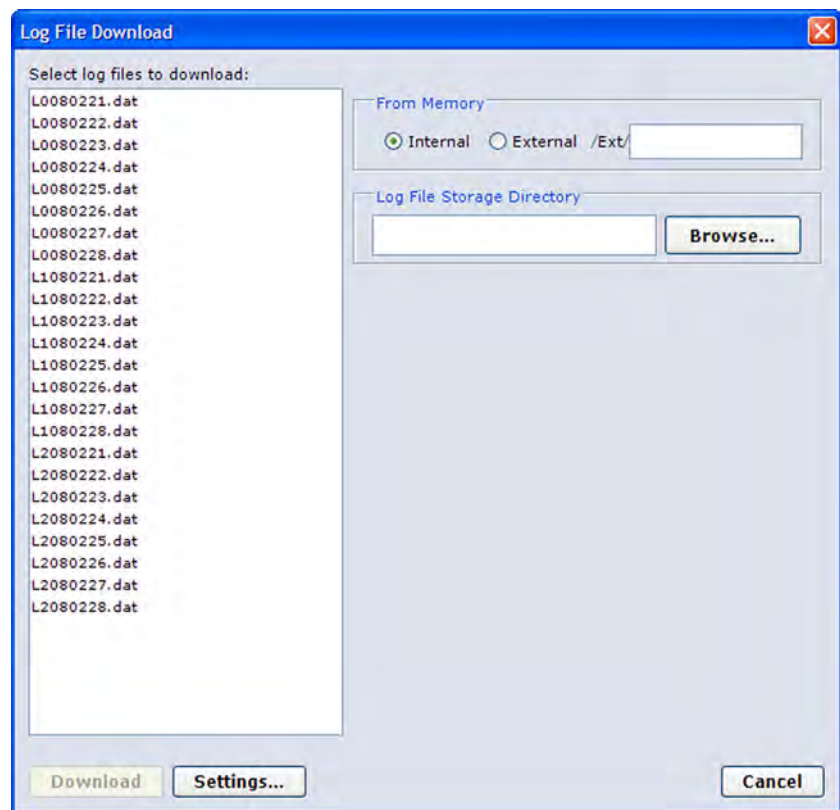

Figure 48 List of Log Files Available for Downloading
1. On the **Maintenance** menu, select **Log File** and then **Download from Logger**. The list of log files available for downloading in the QML logger is displayed (see Figure 48 on page 91). The files are arranged by log group. Each log group includes specific parameters as defined in the setup file. If you use an external memory card, select the **External** option and, if required, enter the directory to use on the external memory card.